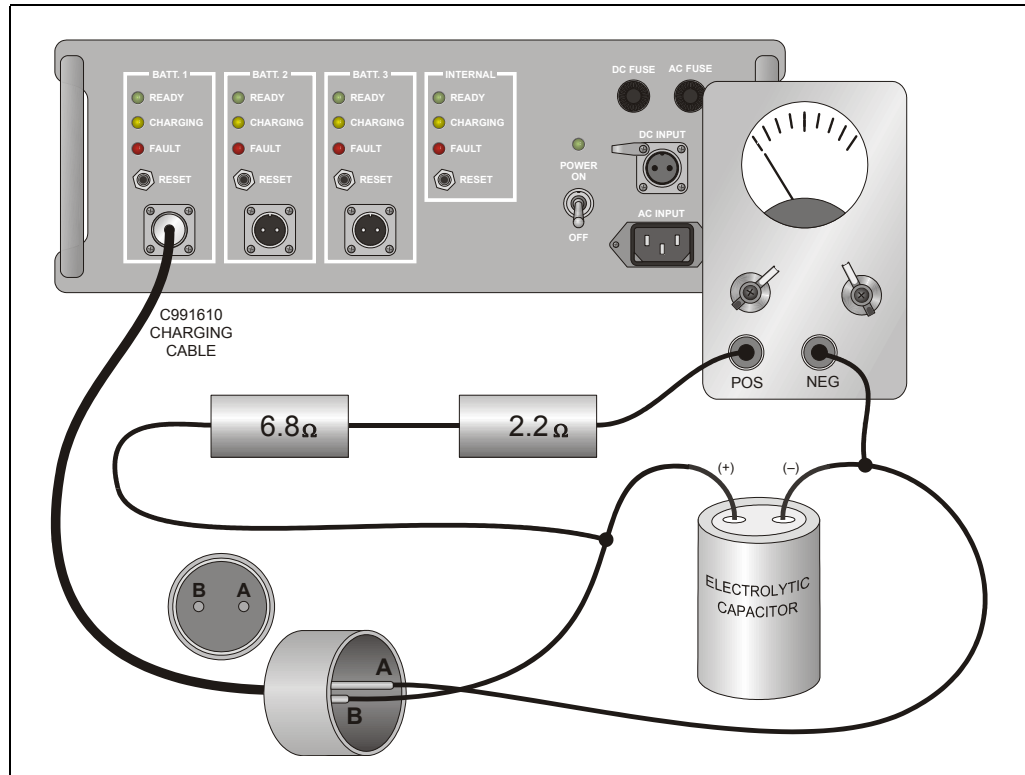

Figure 5-2 DC Current Check Setup
- Connect the DC ammeter, 6.8 ohm and 2.2 ohm resistors in series and connect them across the capacitor (refer to Figure 5-2 on page 5-3).